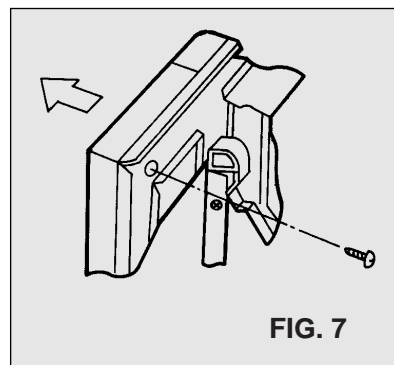

FIG. 7
6. To remove parts of control panel assembly (Refer to Fig. 7,8)